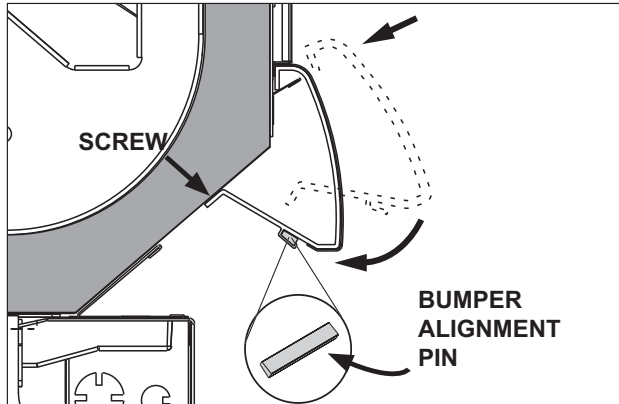

Fig. 7 Streamlyne bumper alignment pin
- Place the hook of the Streamlyne bumper on the lip of the master bumper bracket and rotate the bumper down while pushing it in (Fig. 7). When the top edge of the bumper has slipped under the color band, be certain that it is pushed in as far as it will go.